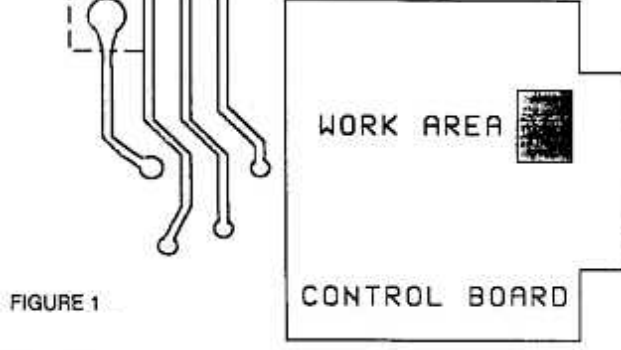

FIGURE 1
8. Install the circuit shown in figure 1 on the foil side of Control board A/3.
3. Open the subchassis as shown in figure 1 (remove 4 top screws, remove 3 back panel screws, unplug the RX ANT OUT and DRIVE IN connectors).
4. Remove the cover from the subchassis (12 screws). Figure 1.
9. Locate chip resistor R135 as shown in figure 1.
6. Solder a 22 AWG jumper wire as shown in figure 1.
3. Locate the I.F. board on the bottom of the transceiver. This is the back right board of the 4 boards on the bottom of the transceiver. Figure 1.